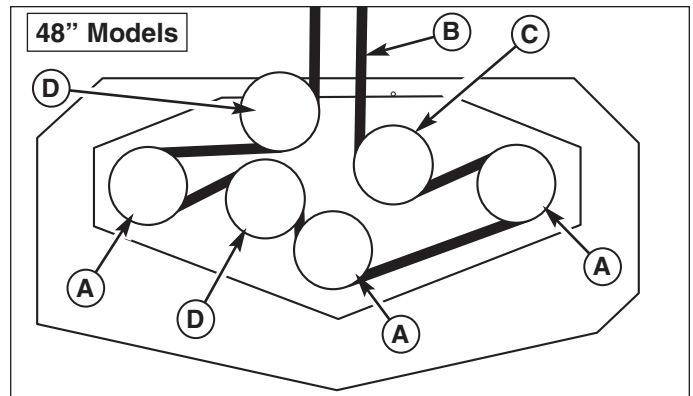

Figure 14. Mower PTO Belt Routing
3. Make sure the V-side of the belt runs in the pulley grooves (Figures 14).